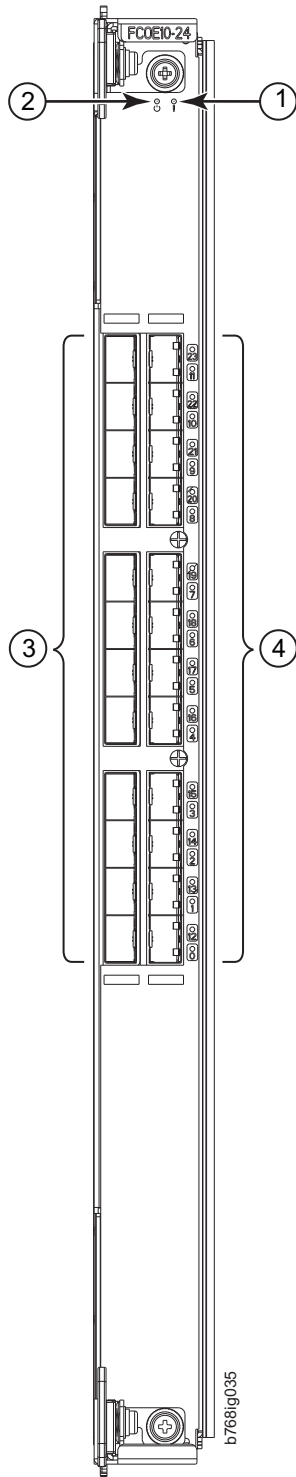

Figure 61. FCOE10-24 blade
- Figure 61 on page 162 shows the FCOE10-24 Fibre Channel over Ethernet blade